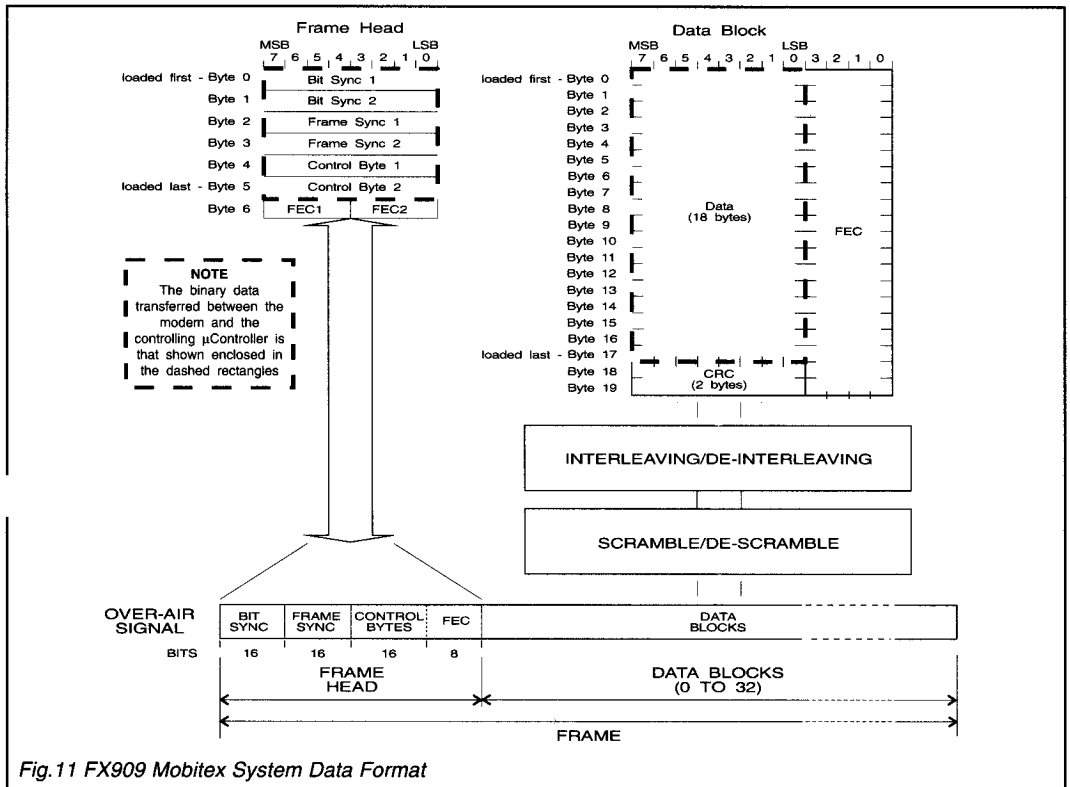

Fig.11 FX909 Mobitex System Data Format
Figure 11 shows how the over-air signal is built up from Frame Sync and Bit Sync patterns, Control Bytes and Data Blocks.
**Search for Frame Head.** Causes the modem to search the received signal for a valid Frame Head. The Frame Head will consist of a 16-bit Frame Sync followed by control data which has no uncorrectable errors (see Figure 11 -Data Format).